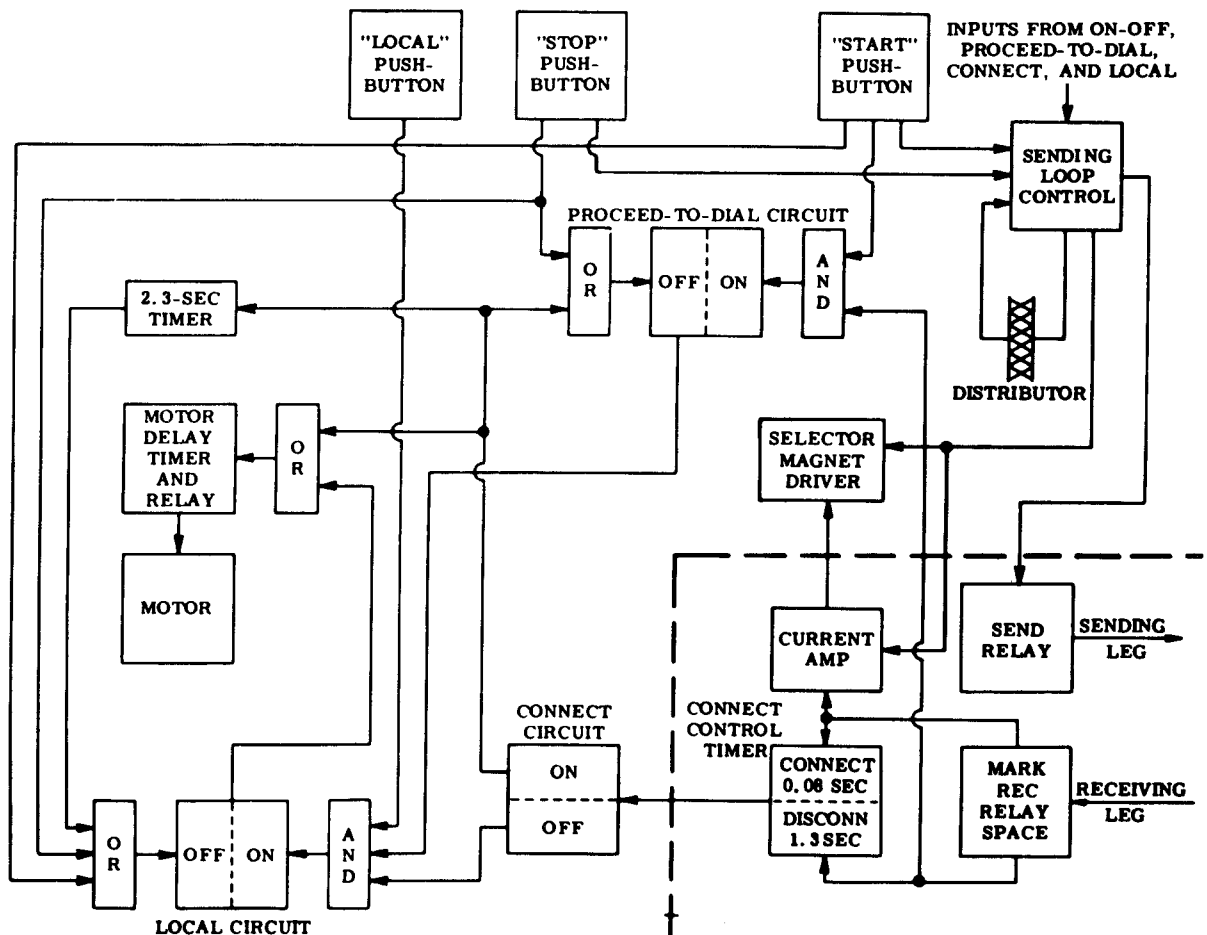

Figure 10 - Polar Adapter Circuit
3.68 Figure 10 is a block diagram showing the polar adapter connected to the call control unit. The call control unit portion of the block diagram is the same as that shown in Figure 7 with one exception. The line sensing and control block of the call control unit is now called the sending loop control. All of the components are identical in these two blocks, but rewiring allows the block to control the sending leg rather than the signal loop. This block also has outputs to the current amplifier and the selector magnet driver. The input to the current amplifier allows the teletypewriter to read its own copy. The input directly to the selector magnet driver is for teletypewriter blinding.